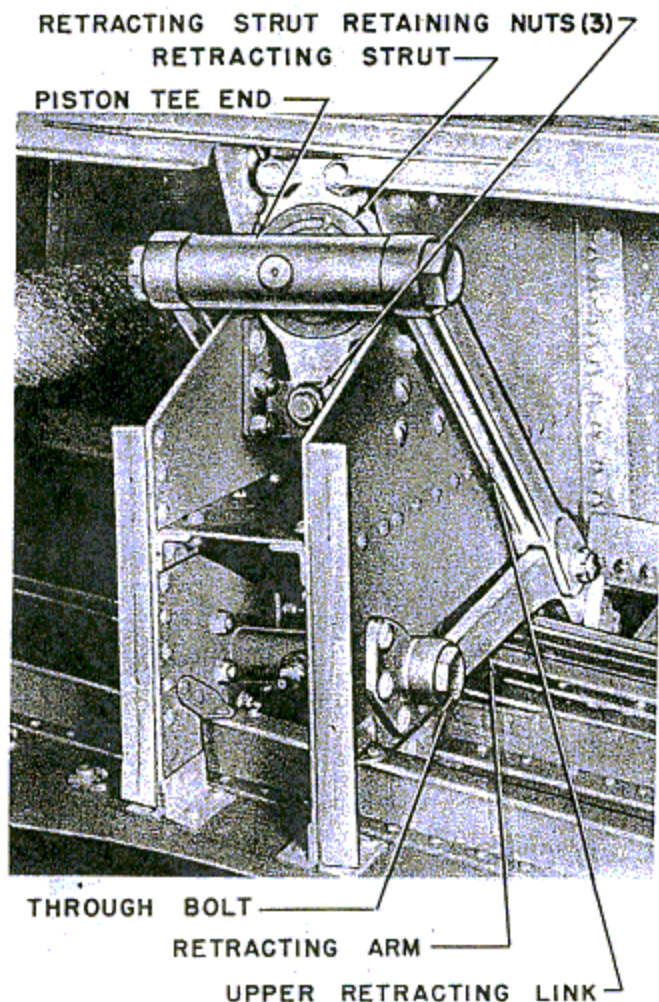

Figure 118—Retracting Arms and Upper Retracting Links
11. Working through the two lightening holes in the web of the wheel pocket at either side of the retracting strut cutout, remove the through bolt which attaches the retracting arms to the wing. (See figure 118.)